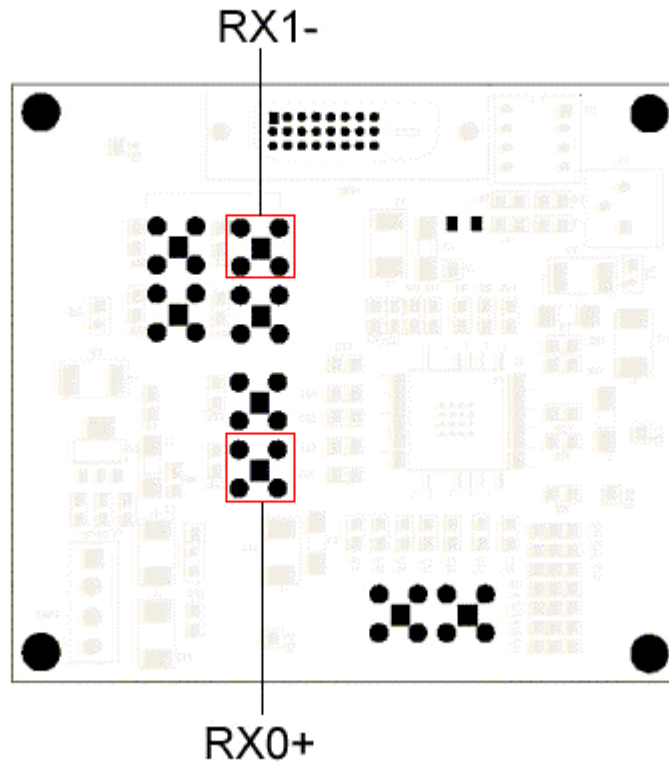

Figure 206: TPA-P test points
4. Connect two single-ended probes to the Rx0+ of one data pair and Rx1- of the same data pair as shown in Figure 206.